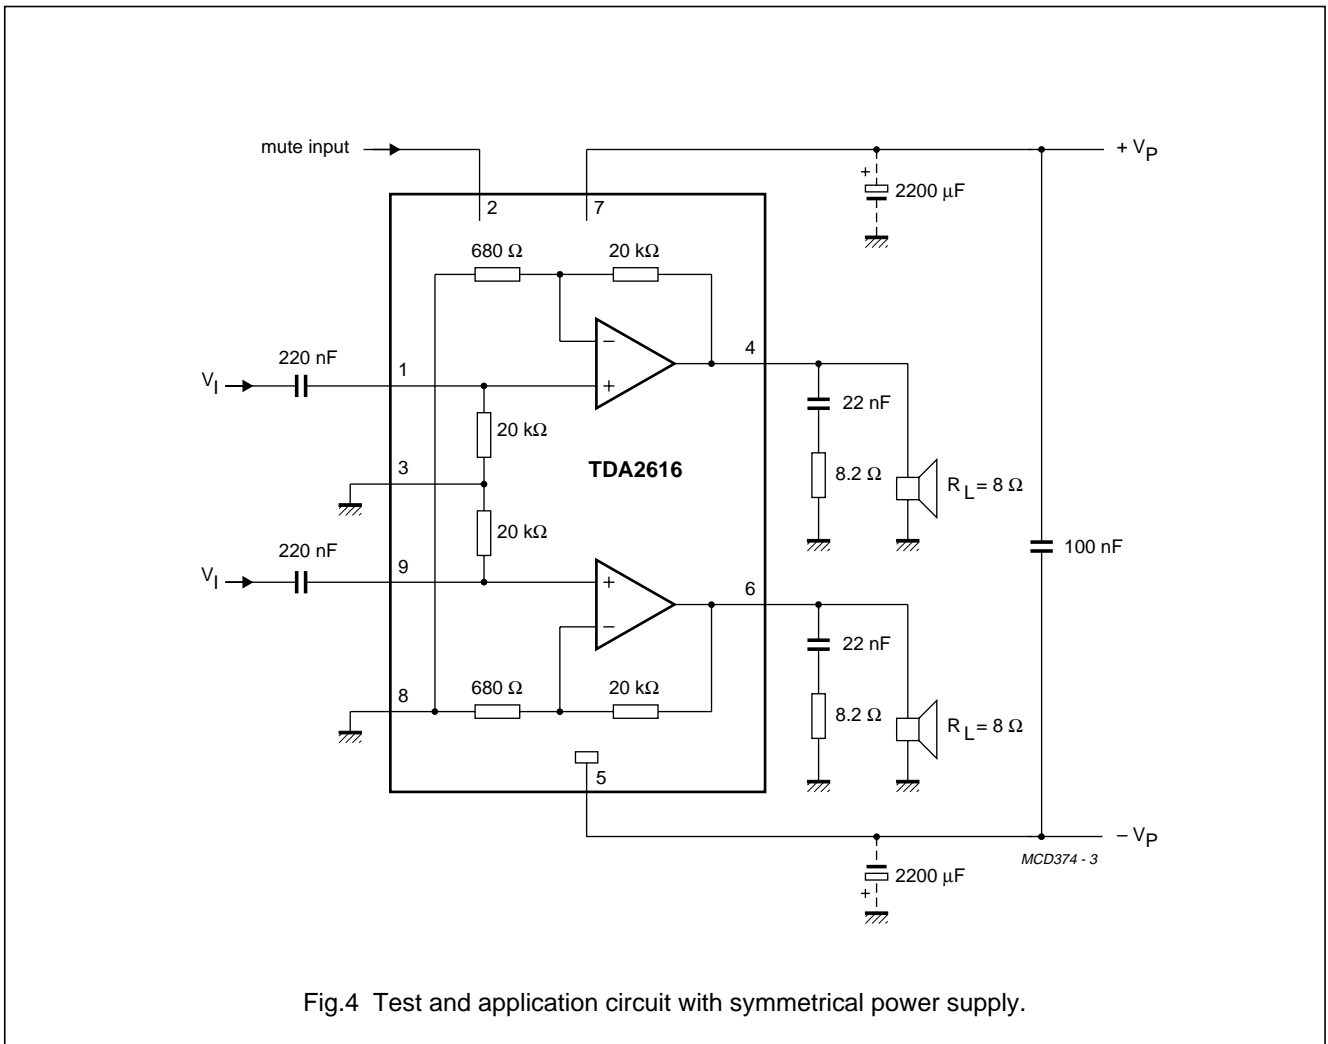

Fig.4 Test and application circuit with symmetrical power supply.
- $V_{\text{P}} = \pm 16 \text{ V}$ ;  $R_{\text{L}} = 8 \Omega$ ;  $T_{\text{amb}} = 25 \text{ }^\circ\text{C}$ ;  $f = 1 \text{ kHz}$ ; symmetrical power supply  $I_{\text{MUTE}} < 30 \mu\text{A}$ . See Fig.4
- $\pm V_{\text{P}} = 4 \text{ V}$ ;  $R_{\text{L}} = 8 \Omega$ ;  $T_{\text{amb}} = 25 \text{ }^\circ\text{C}$ ;  $f = 1 \text{ kHz}$ ; symmetrical power supply. See Fig.4